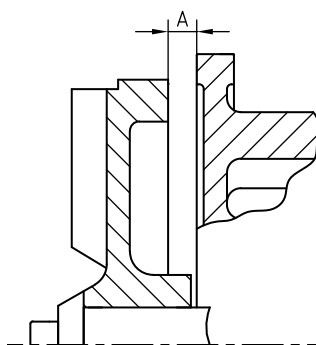

Figure 13: Adjusting the impeller FREM.
- 2 Adjust the impeller to size **A** between the rear of the impeller and the intermediate cover. See figure 13 and Table 7 below. Preferably use 2 calibrated rulers.